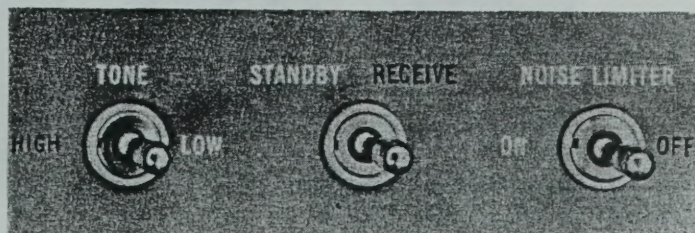

Figure 4. View showing three toggle switches
3. Set the three toggle switches to the "right" hand position. (See Fig. 4)
9. The next control which will be of interest to you, will be the TONE switch. (See Fig. 4). When it is set to the left, the receiver produces substantially all musical tones as sent out by the radio station. However, by setting this control to BASS, low notes will be amplified.